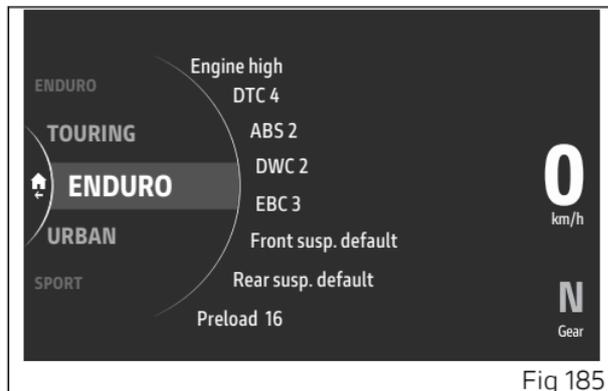

Fig 185
- System opens the specific page (Fig 185) from which it is possible to scroll the available Riding Mode and view their parameters, together with the relevant settings, by means of joystick ▲ ▼.